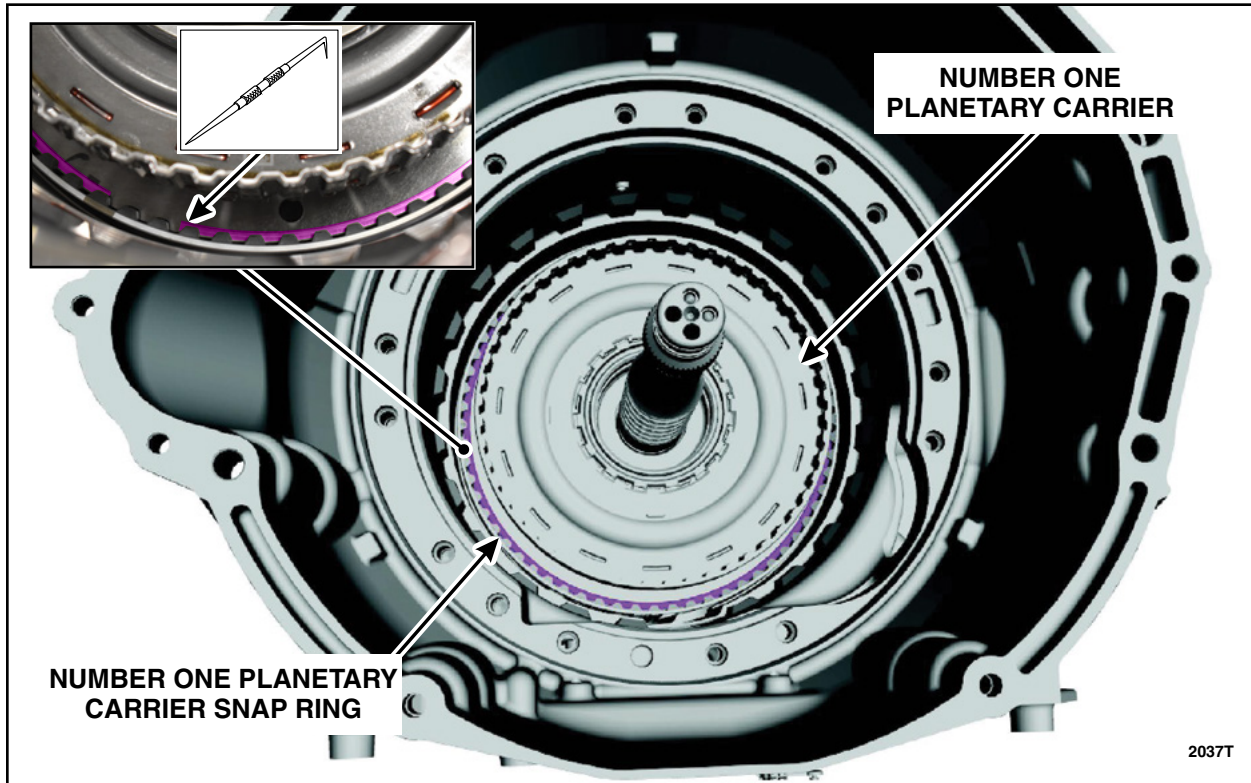

FIGURE 12
15. Using a pick, remove the number one planetary carrier snap ring. See Figure 12.